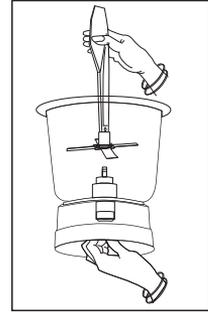

Fig. 5
- In order to clean the blades thoroughly, remove the blades by using the spatula (refer figure 5) to loosen the screw by twisting the dome nut on the blade clockwise, while holding the coupler from under the jar.